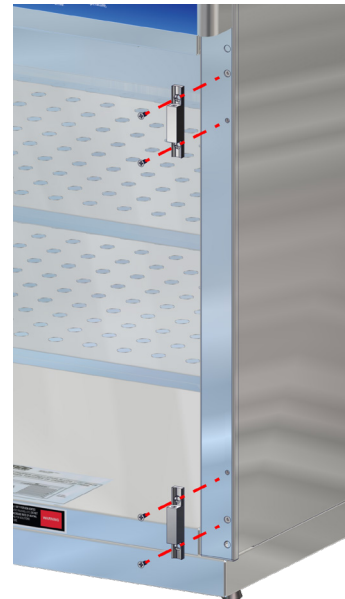

Fig. 46: Detach Glass Door Hinge - Male Half
2. Detach the male halves of the glass door hinge by unscrewing them from the warming cabinet. The hinge halves on the door should remain in place (Fig. 46).